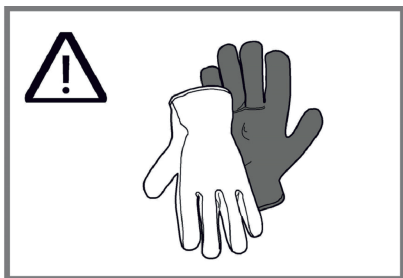

Fig. 11
- Parts inside the appliance may have sharp edges. Use protective gloves (Fig. 11).